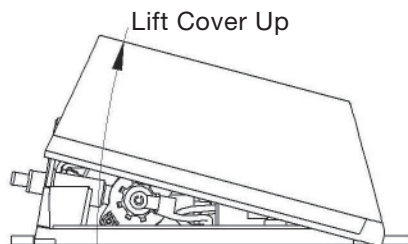

Figure 4 Lifting Cover
3. Lift the cover up (Figure 4).